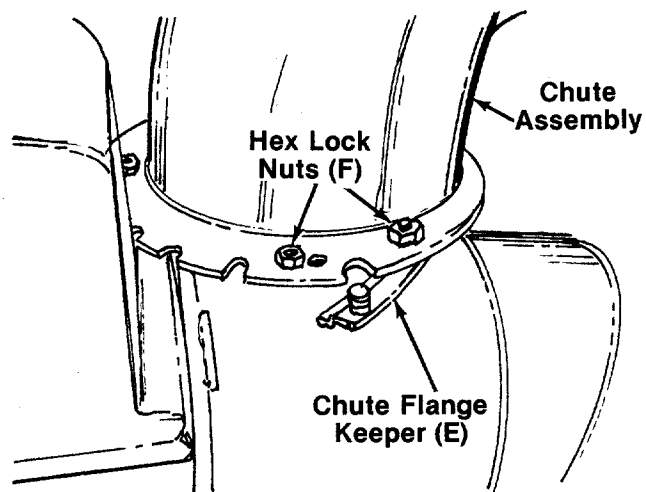

FIGURE 6.
10. Place chute assembly over chute opening, with the chute facing the front of the unit. Place chute flange keepers (E) beneath lip of chute assembly. Secure with hex lock nuts (F) as shown in figure 6. Tighten with a 7/16" wrench, then back off 1/4 turn to allow easier movement.